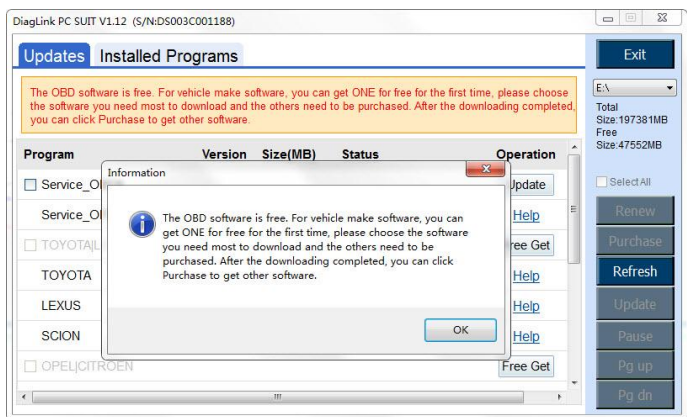

Figure 10.7
- 3) The program list will be automatically loaded. If you have never downloaded any software package, the **Updates** window will show as below (Figure 10.7).